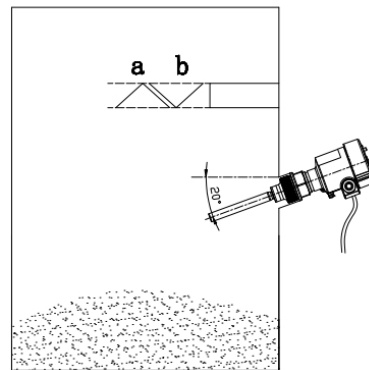

Fig.2
- For horizontal installation, mount the Tube-11 approx. 20° inclined to the bottom of the vessel to avoid the medium buildup as shown in Fig.2. If the medium level moves rapidly up and down or the medium flows rapidly, a protection baffle is needed to ensure TUBE-11 work reliably. Fig.2 shows a protection baffle is installed above the vibrating body. The protection baffle shall be longer than the intrusion depth (horizontally) of the probe to protect the probe from impact damage. Generally the protection baffle can be a convex shape (inverted "V" section) as in Fig.2 (a). But when the medium is coarse and abrasive, the baffle in concave shape (erected "v" section) would be a better choice as in Fig.2 (b). The medium could stack up a bit in the concave area. It will reduce the impact to the baffle and extend the life time of the protection baffle.